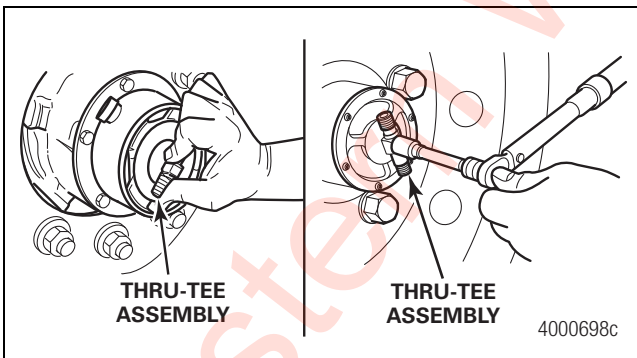

Figure 2.48
- Hand-tighten the thru-tee assembly. Tighten the tee with a torque wrench set at 45 lb-in (5 N•m). Check alignment of the tee air fittings to the tire valve stems. If aligned, go to Step 6. If not aligned, retighten the tee with a torque wrench set to 55 lb-in (6 N•m) and tighten until aligned. Do not exceed 55 lb-in (6 N•m). If still not aligned, repeat Step 5. Figure 2.48.